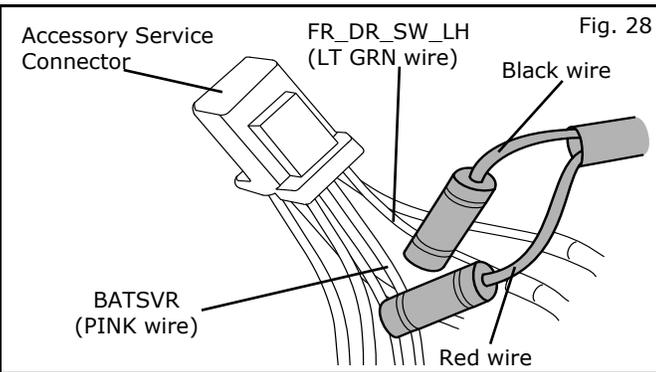

Fig. 28
- 23) Using a Posi-Tap (H), connect the black wire of LED unit wire to the "FR\_DR\_SW\_LH" (LT GRN wire) of the Accessory Service Connector as shown in Fig.28. ( In the case of at right side installation, connect the black wire of LED unit wire to the "FR\_DR\_SW\_RH" (GRN wire) of Accessory Service Connector.)
- 24) Using a Posi-Tap (H), connect the red wire LED unit wire to the "BATSVR" (PINK wire) of the Accessory Service Connector as shown in Fig. 28.